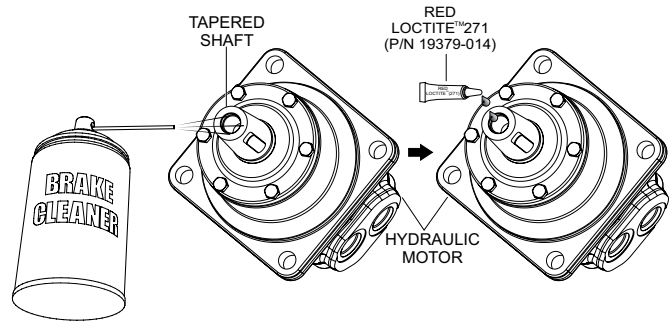

Figure 7. Applying Loctite™ (Hyd. Motor Shaft)
4. Spray with brake cleaner to remove any contaminants that may have accumulated on the hydraulic drive motor threads (Figure 7) or output shaft. Use compressed air to blow away any remaining residue.
5. Apply Red Loctite™ 271 (19379-014) to the female threads (Figure 7) on the hydraulic motor shaft.